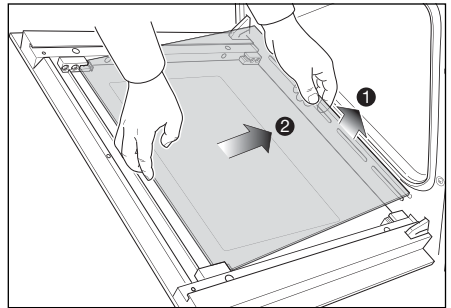

Fig.48c
- Gently lift the bottom edge of the pane (arrow 1 in Fig. 48c) and remove it by pulling it out from the top clamps (arrow 2 in Fig. 48c).